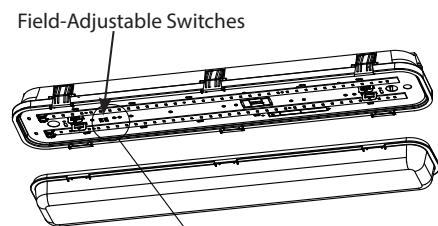

Fig: 7
1. Release the **Latches** and unlatch the **Lens** from **Housing**. Snap out the **LED & Heat Sink Assembly** as shown in Fig. 7.
2. Locate the **Field Adjustable Switches** on the back of the **Heat Sink Assembly** as shown in Fig. 7.